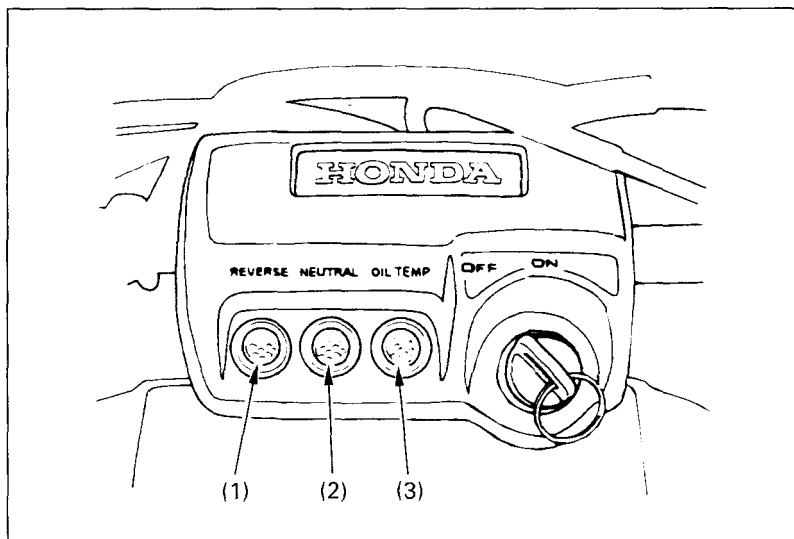

Fig. 2-13 (1) Reverse indicator lamp (3) Oil high temperature indicator lamp
If the engine oil gets too hot, the oil high temperature indicator lamp (Fig. 2-13) will light.
The reverse indicator lamp (1) and the neutral indicator lamp (2) (Fig. 2-13) are next to the ignition switch.